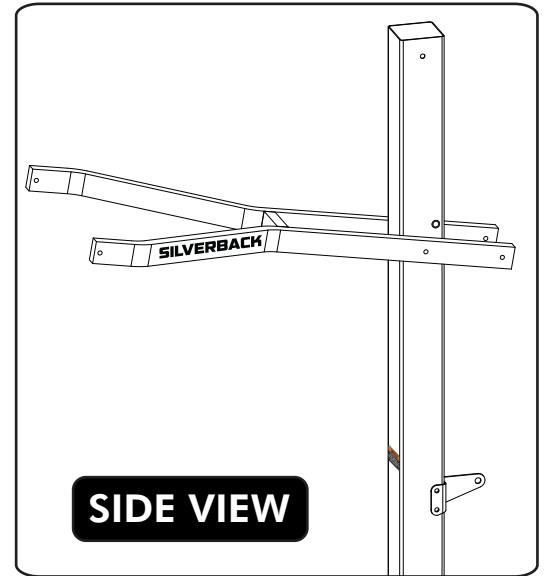

Figure 7
8. Attach lower arms (#11) to Top Pole (#3), as shown in **Figure 7**, using a hex bolt (#22), two flat washers (#18), two plastic washers (#5) and lock nut (#4).
Note: make sure lettering is right side up. (See Side View). **DO NOT** tighten bolt (#22) at this time. (See Figure 7.)